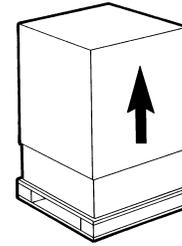

FIGURE 1
1. Remove the equipment from the packing, then pull the carton up (see FIGURE 1).